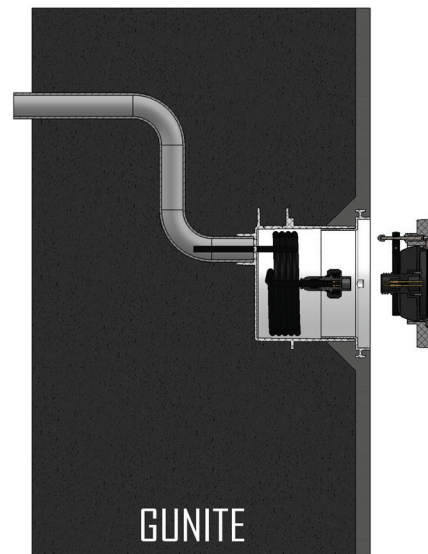

Figure 3
7. To install pool light remove the plaster cap. Clean any debris that may have entered the niche and the adjustable plaster ring during pool construction. Ensure that there are two O-rings located inside the quick-connect plug and that they are lubricated and in good condition. Excess cable should be long enough to rest on the deck of the pool and should be wound up inside the niche (See Figure 3). Connect the quick-connect cord to the back of the LED light, screw the locking nut clockwise till fully secured. Connect bonding wire from the light bonding lug to the and internal niche's bonding lug. Ensure that both bonding connections are secure, follow all applicable codes. Securely fasten the light with provided screws onto the adjustable plaster ring.